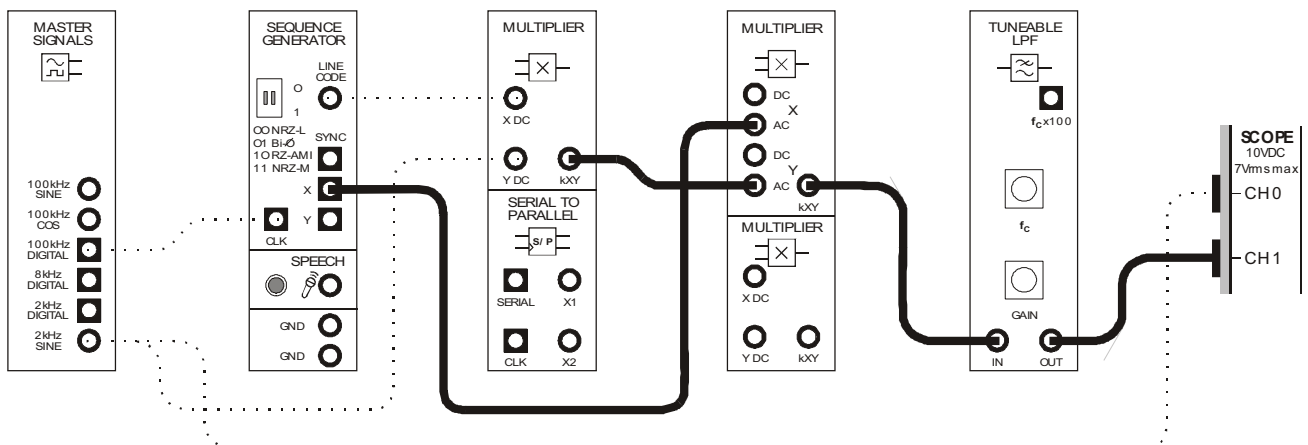
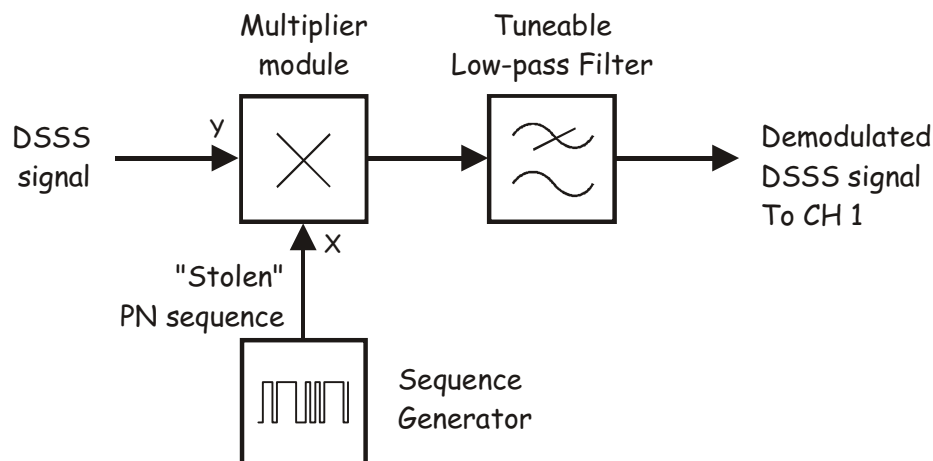

Figure 5
Figure 6
33. Modify the set-up as shown in Figure 5 below.
The additions to the set-up in Figure 5 can be represented by the block diagram in Figure 6 below. The Multiplier module and the Tuneable Low-pass Filter module implement a product detector which recovers the original message from the DSSS signal. To facilitate this, the PN sequence used for the modulator's carrier is "stolen" for the product detector's local carrier (though it's stolen from the module's *X* output but the bit pattern is the same).